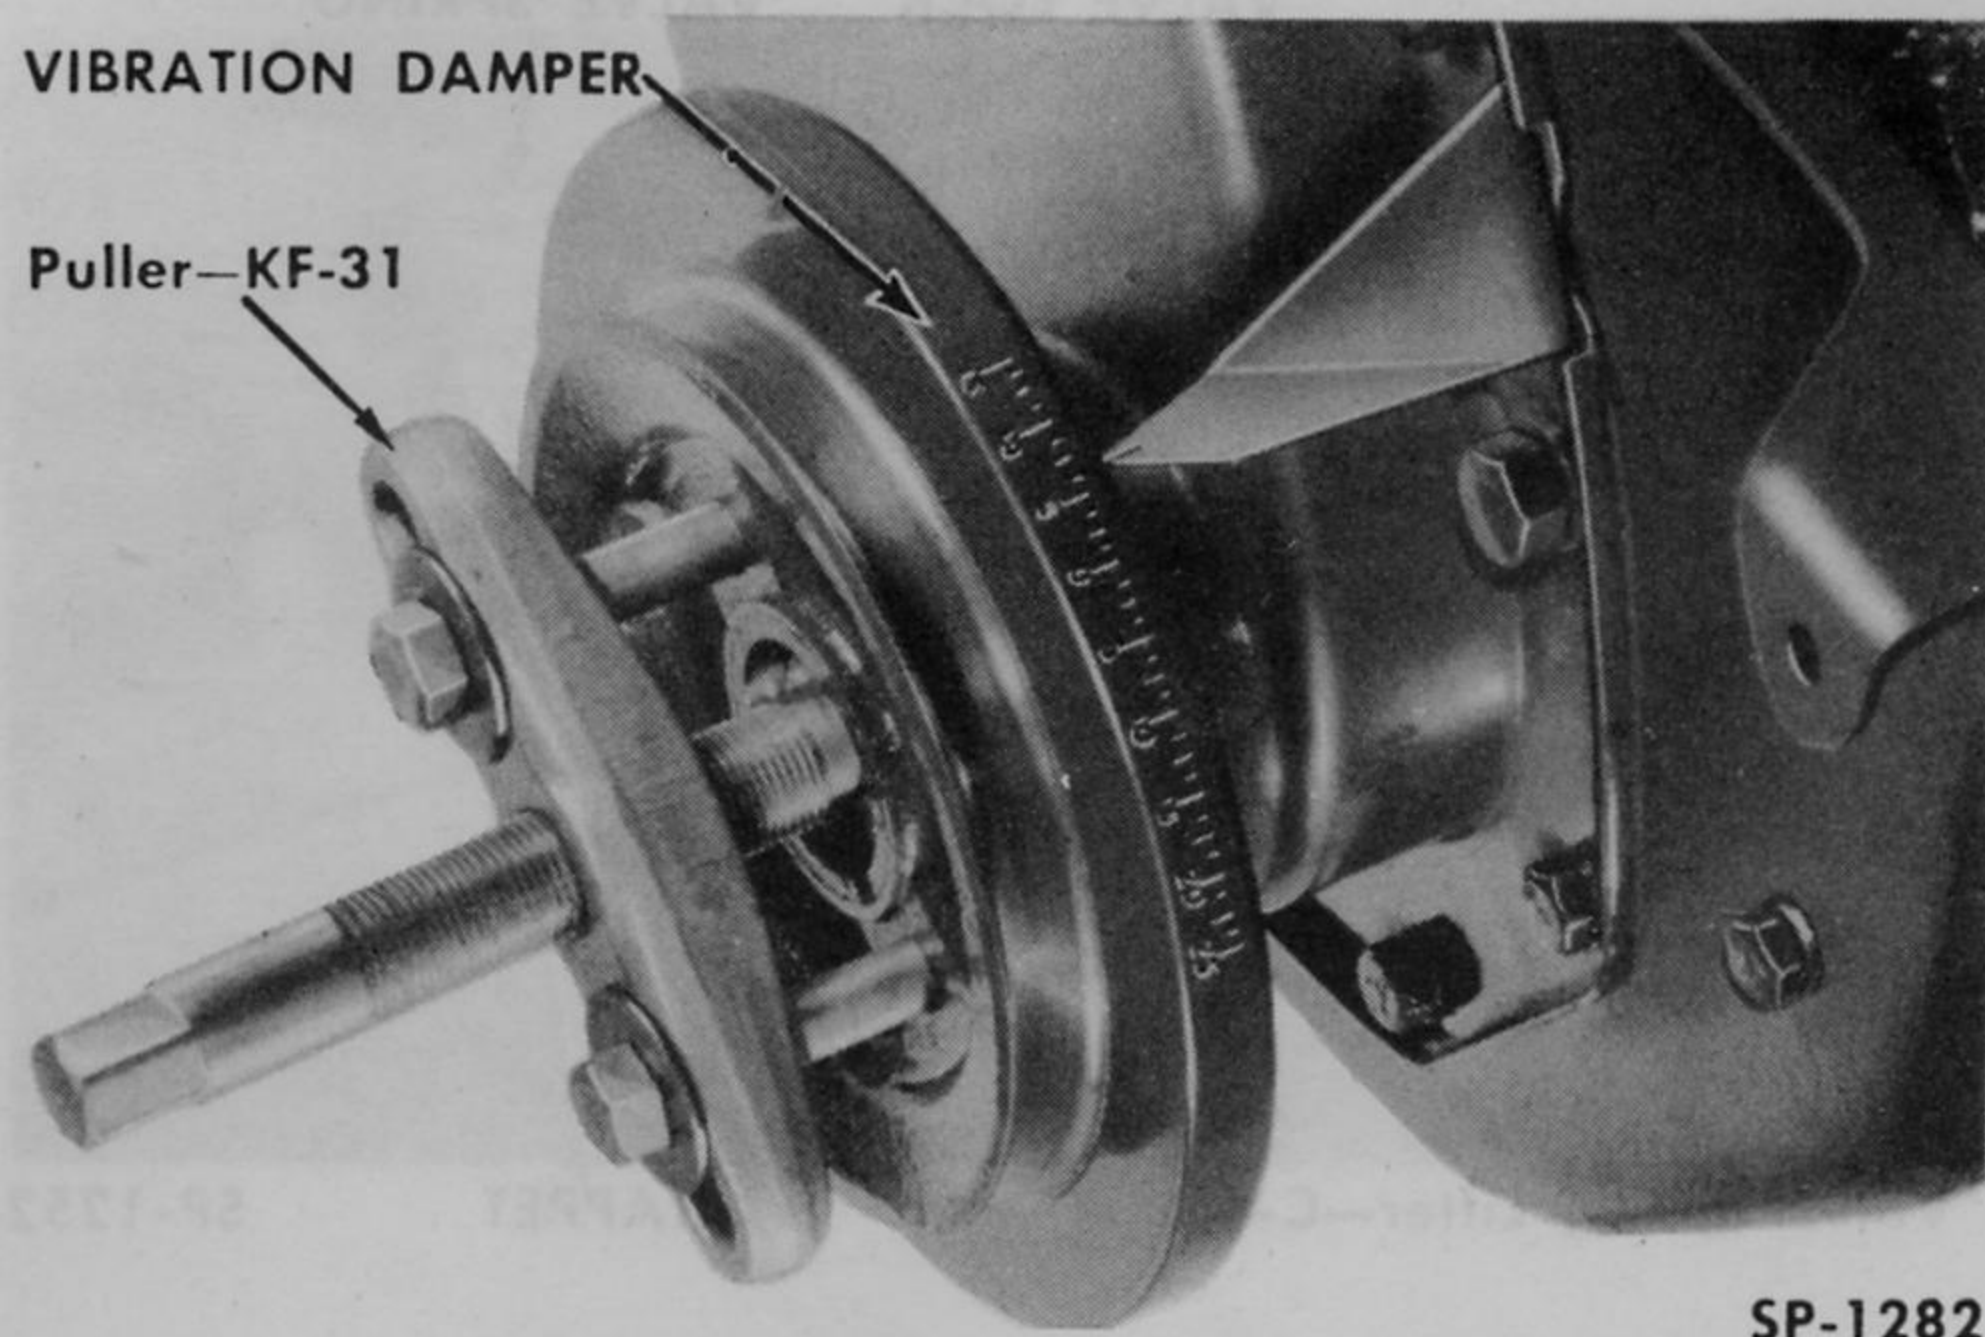

Fig. 25—Removing Vibration Damper—Kaiser
2. If working on a Kaiser model install Vibration Damper Puller KF-31 (Fig. 25).